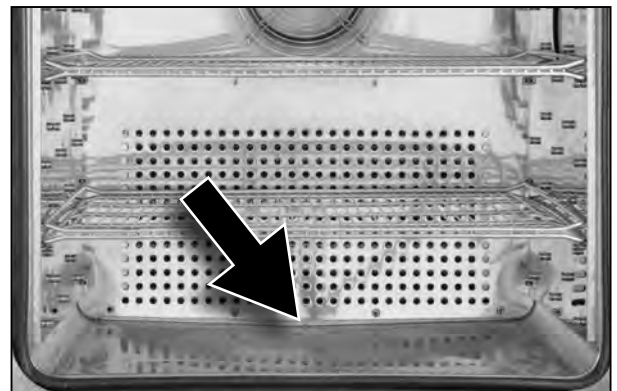

Fig. 38 Condensation water runoff
- ▶ Check that the condensation water runoff tube (Fig. 38) at the rear of the chamber interior is not blocked and clean if necessary.